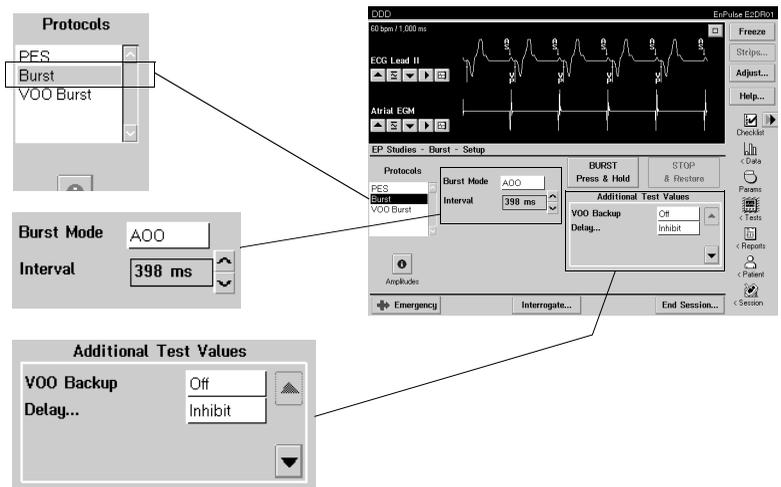

Figure 9-8. The basic tasks for setting up a Burst protocol
This procedure is divided into the tasks illustrated in Figure 9-8.
1. If the Burst - Setup screen is not displayed (see Figure 9-8), select **Burst** from the Protocols list.